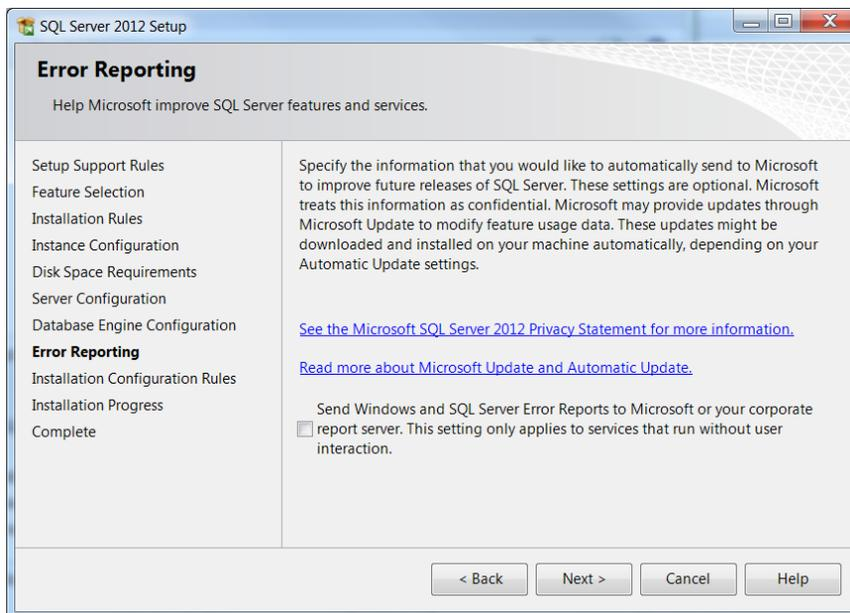

Figure 18: SQL Server 2012 Setup Error reporting
13) At the Error Reporting window (Figure 18), click **Next**. The installation process begins.